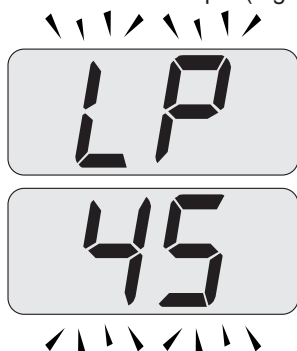

Fig. 10.17
- Press keys 10 and 11 (Fig. 10.15) at the same time until the LCD display displays the letters LP that alternate with the heating water temperature value (e.g.45), indicating the activation of the "flue sweep function" at minimum output (Fig. 10.17).